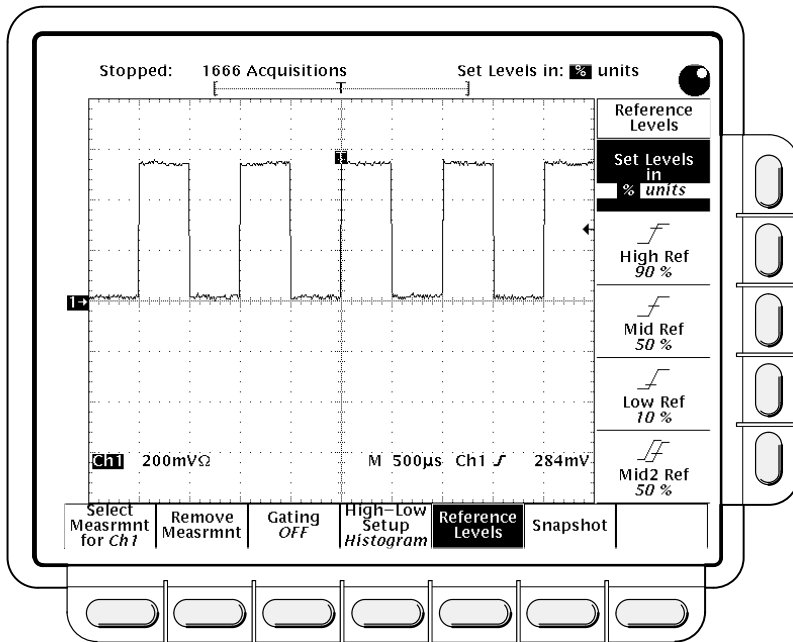

Figure 3-32: Measure Menu—Reference Levels
1. Press **MEASURE** → **Reference Levels** (main) → **Set Levels** (side) to choose whether the References are set in % relative to High (100%) and Low (0%) or set explicitly in the units of the selected waveform (typically volts). See Figure 3-32. Use the general purpose knob or keypad to enter the values.